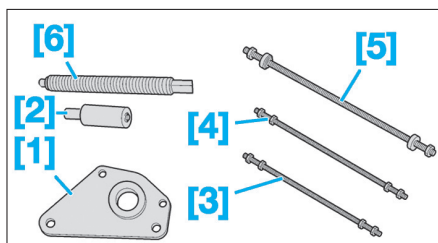

Fig. 54
- [1]. Plateau (Ref. 0539-J) (Fig.54).